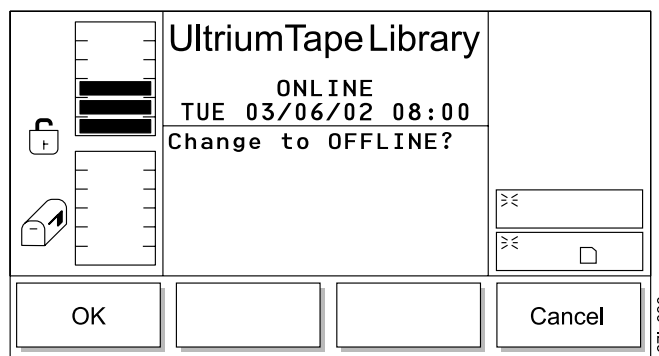

Figure 79. Offline Confirmation Dialog
- If **Change** is selected, the Offline Confirmation Dialog displays (see Figure 79).